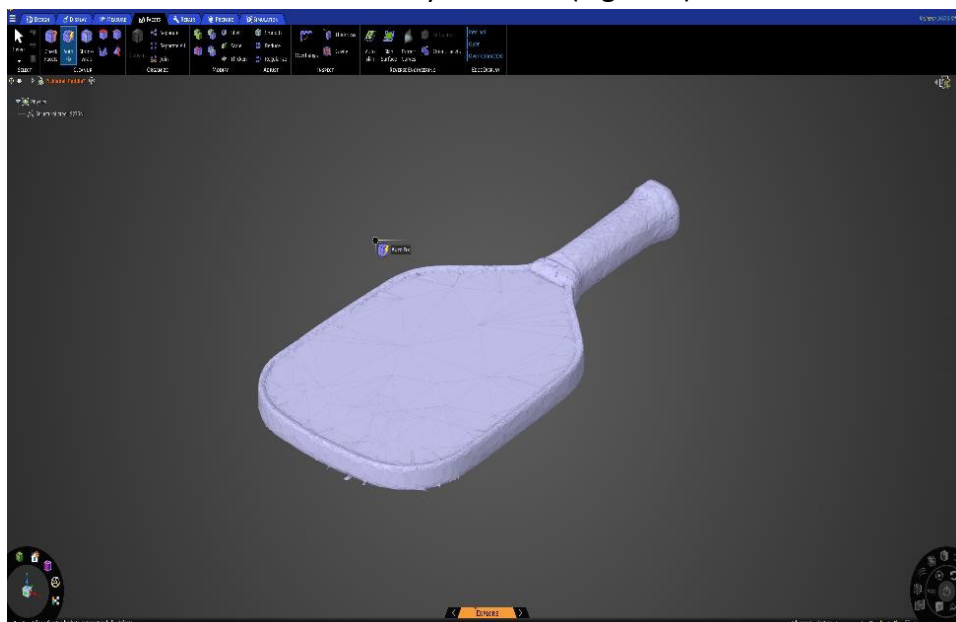

Figure 4: Auto fixing pickleball paddle scan data
1. Use the “Auto Fix” tool to automatically fix errors (Figure 4)